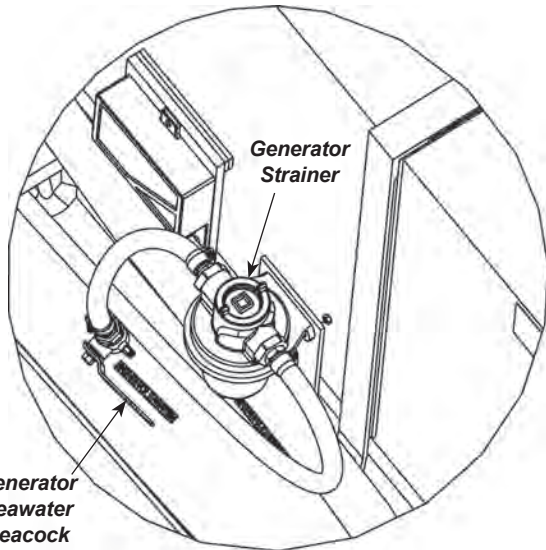

Figure H25: Generator Seawater Seacock & Strainer
5. Open the generator’s seacock valve (labeled GENERATOR SEAWATER) to allow water flow to the generator for cooling purposes. The seacock is located in the engine room next to the generator. See Figure H25.